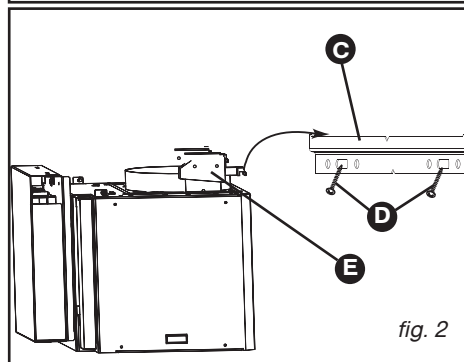

fig. 2
– Screw the fastening bar to the wall (C/fig. 2), with the 2 screws (D/fig. 2)
– Hang the suction hood by its hooks (E/fig. 2).
– Adjust the height and level by moving the clamping screws (E/fig. 2) of the supports (the top screw for horizontal fit and the bottom screw for fitting to the wall).
– Mount the back-flow valve near the motor outlet (fig. 2). This back-flow valve makes it possible to block the entry of air from the outside.